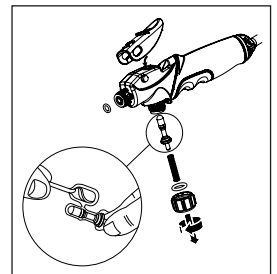

Figure 5
4. Inspect check valve in bottom of cylinder. If worn or damaged, remove and replace by pressing into hole in bottom of barrel. (See Figure 5).